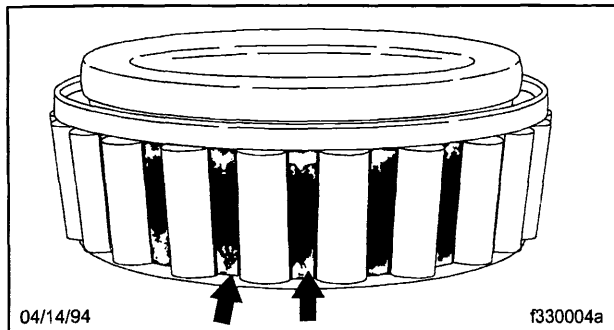

Fig. 9, Rubbing Marks on Bearing Cage
- Bright rubbing marks on the dark phosphate surfaces of the bearing cage (see Fig. 9);